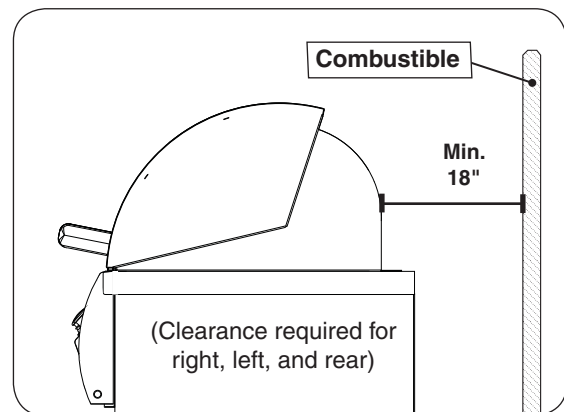

Fig. 10-3 Clearance 'C' Diagram
- The grill must have a minimum of 18" right, left, and rear clearance from any combustible wall (see Fig. 10-3).